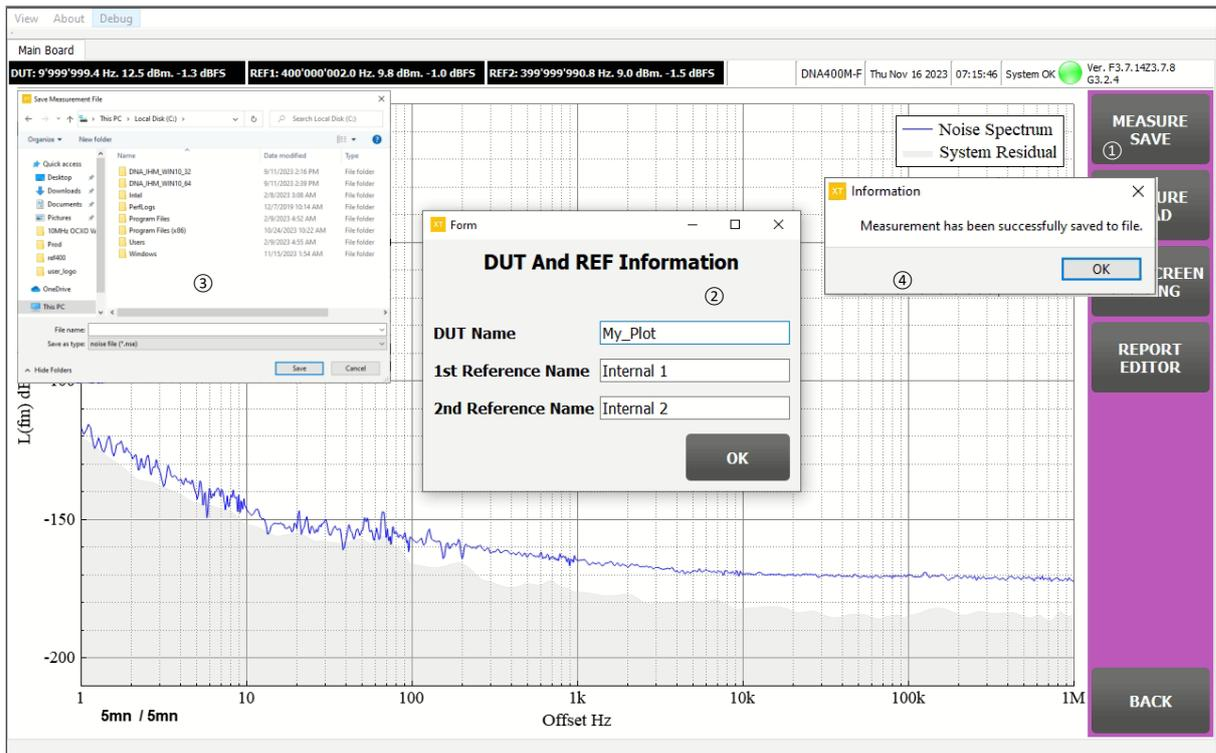

Figure 28 – Measure save.
Click on the **OK** button after inputting the DUT and the references' name in order to browse for the to-be-save file name ③. When the operation is finished, a popup ④ is displayed to inform to users. Click on the **OK** button to close the popup. The whole procedured is illustrated in Figure 28 – Measure save